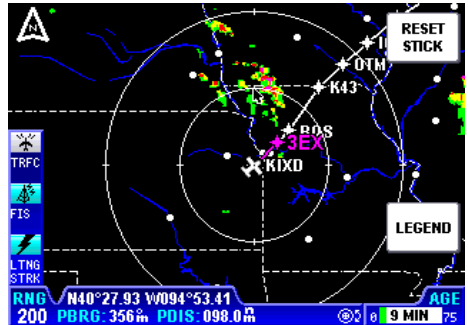

Figure 2-27
3. To view a specific area of weather, move the joystick in the desired direction. A pointer will appear on the display (see Figure 2-27). The distance and bearing between present position and the pointer is shown at the bottom of the display. As the joystick is held the pointer will continue to move. When the pointer reaches the edge of the display the map will pan to keep up with pointer movement.